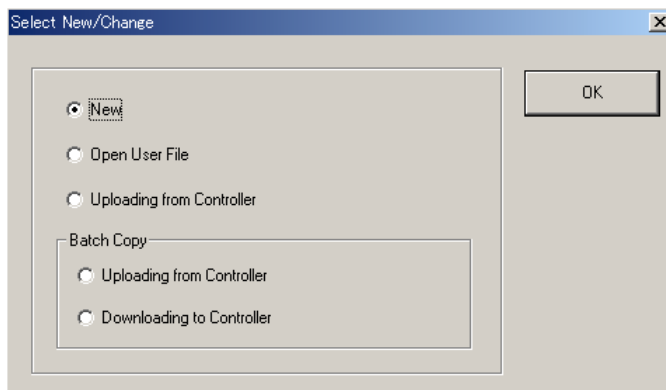

Figure 9.1.3 Select New/Change Dialog Box
- (7) Select the controller model.
- (8) Click **OK**.
- (9) The Select New/Change dialog box appears (Figure 9.1.3).